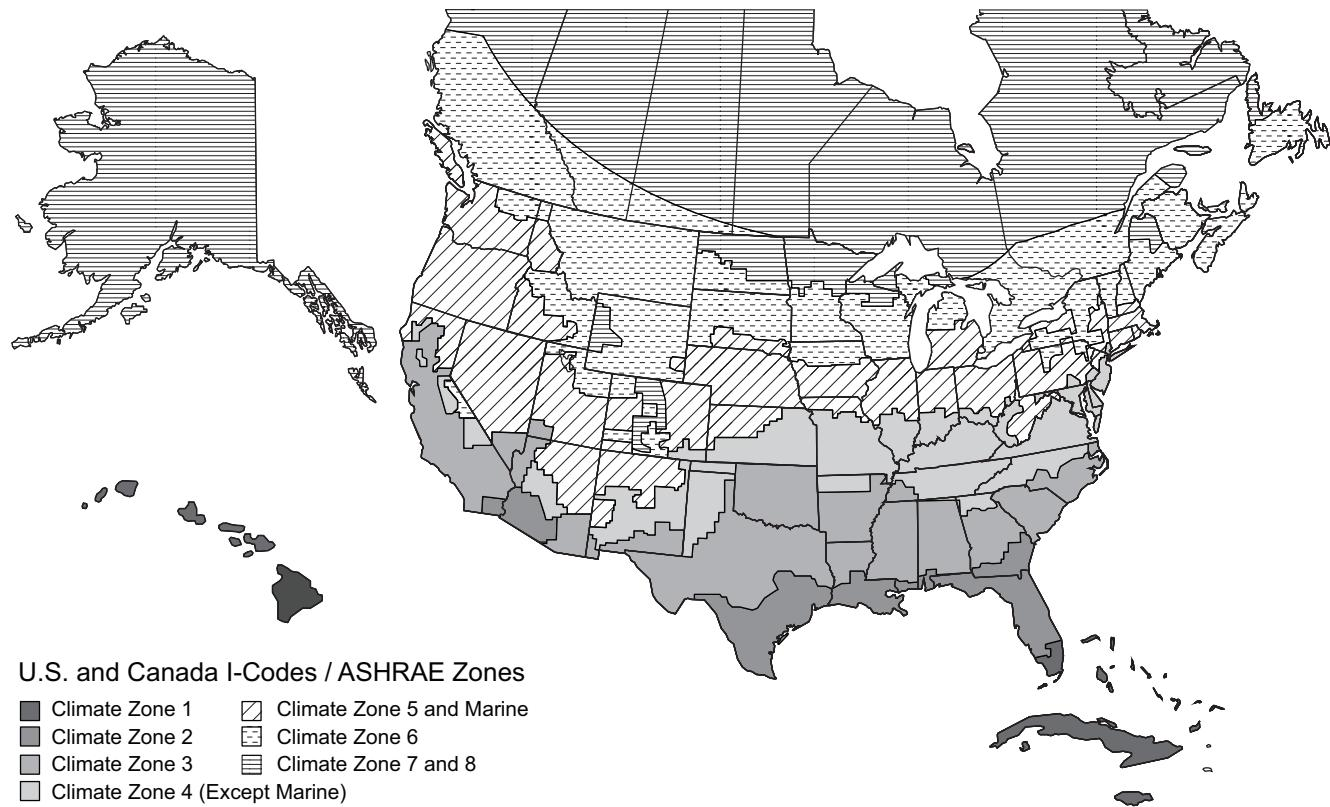

Fig. 64 — U.S. and Canada Climate Zones
- a. See Fig. 64 for map of U.S. and Canada climate zones.